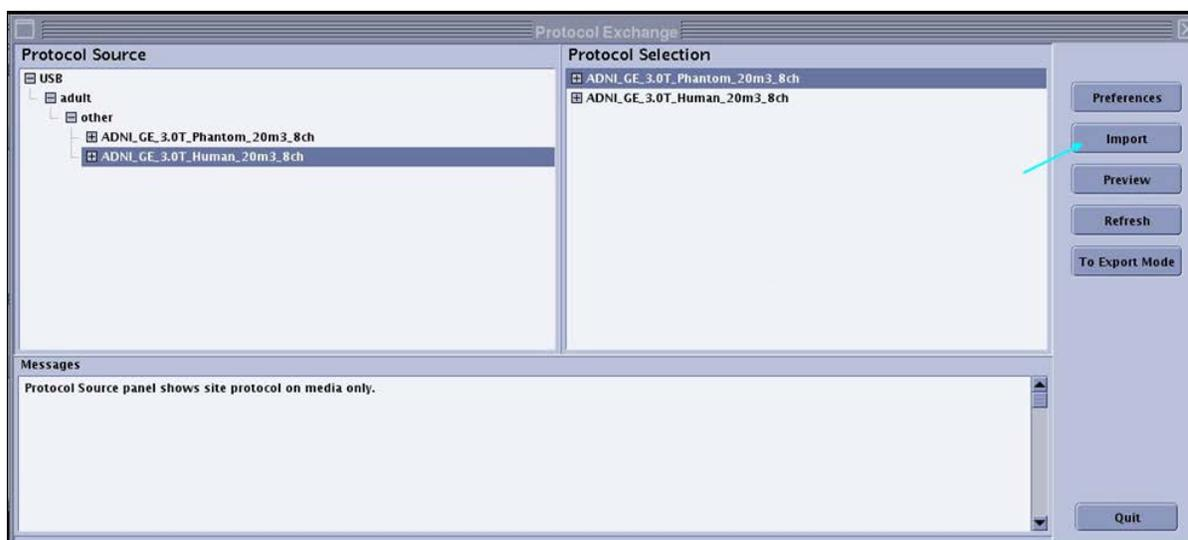

Figure 3: GE protocol selection
4. Select one protocol, and import it by clicking the Import button (blue arrow Figure 3).